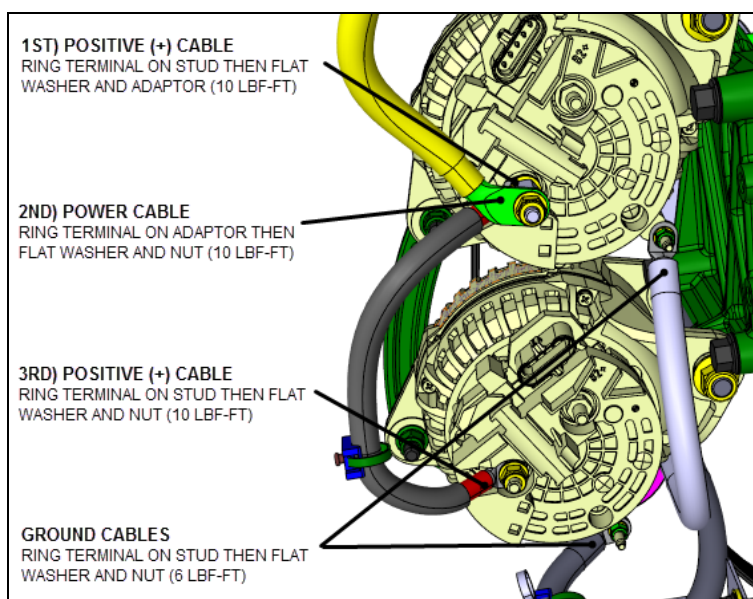

FIGURE 27
15. Cable connection overview. Upper and lower alternator (FIGURE 27).